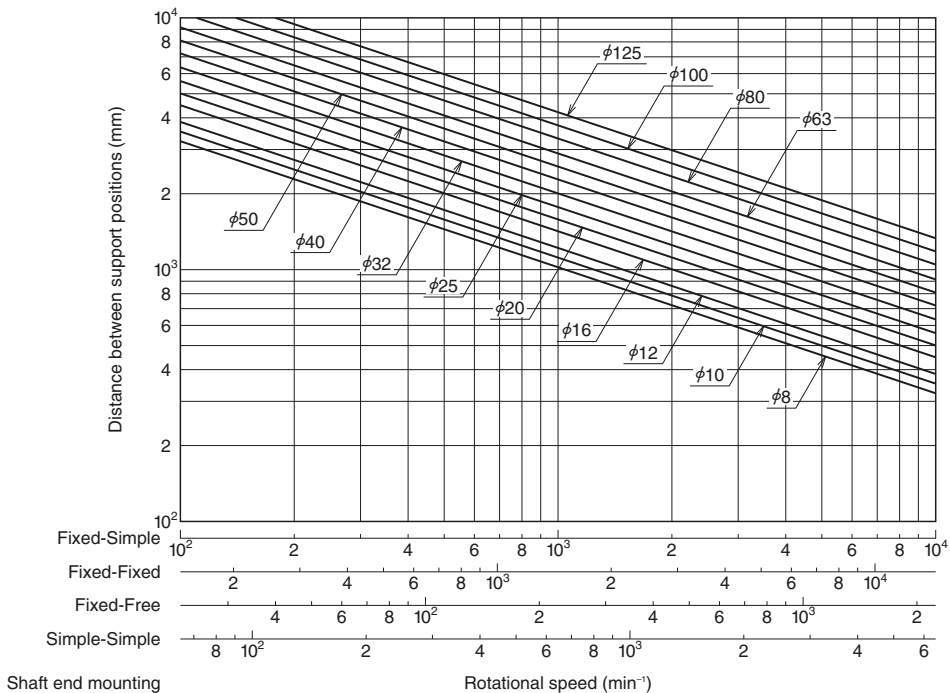

Fig. 3.1 Permissible rotational speeds vs. critical speeds
**Fig. 3.1** shows the permissible rotational speeds against critical speed for each shaft diameter.